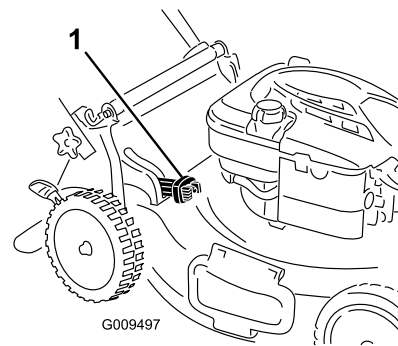

Figure 15
- For bagging the grass and leaf clippings, press the button on the bag-on-demand lever and move the lever forward until the button on the lever pops up (Figure 15).